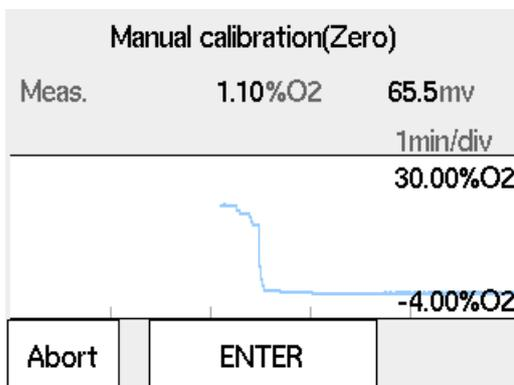

Figure 7.22 Trend in Zero gas calibration
- (8) Similar to span calibration, selecting “Start calibration” displays the trend graph of the oxygen-concentration reading being measured (Figure. 7.22) on screen. Wait for the reading to stabilize near the zero gas concentration by monitoring the graph and the sensor electromotive force. At this point, calibration is not yet executed, so it is acceptable for the reading to deviate from the zero air concentration.